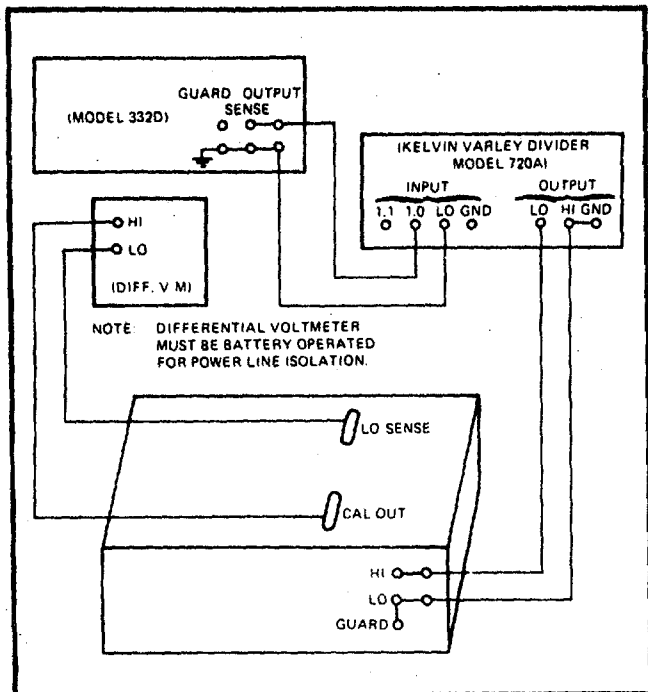

Figure 4-9. EQUIPMENT CONNECTION FOR CALIBRATION
top inner guard cover. Figure 4-9 shows adjustments and test point locations on the top inner guard cover.
- d. Connect test equipment as shown in Figure 4-9.
- a. Connect equipment as shown in Figure 4-9.
- b. Connect equipment as shown in Figure 4-9.
- a. Connect equipment as in Figure 4-9, but do not make the differential voltmeter connections.